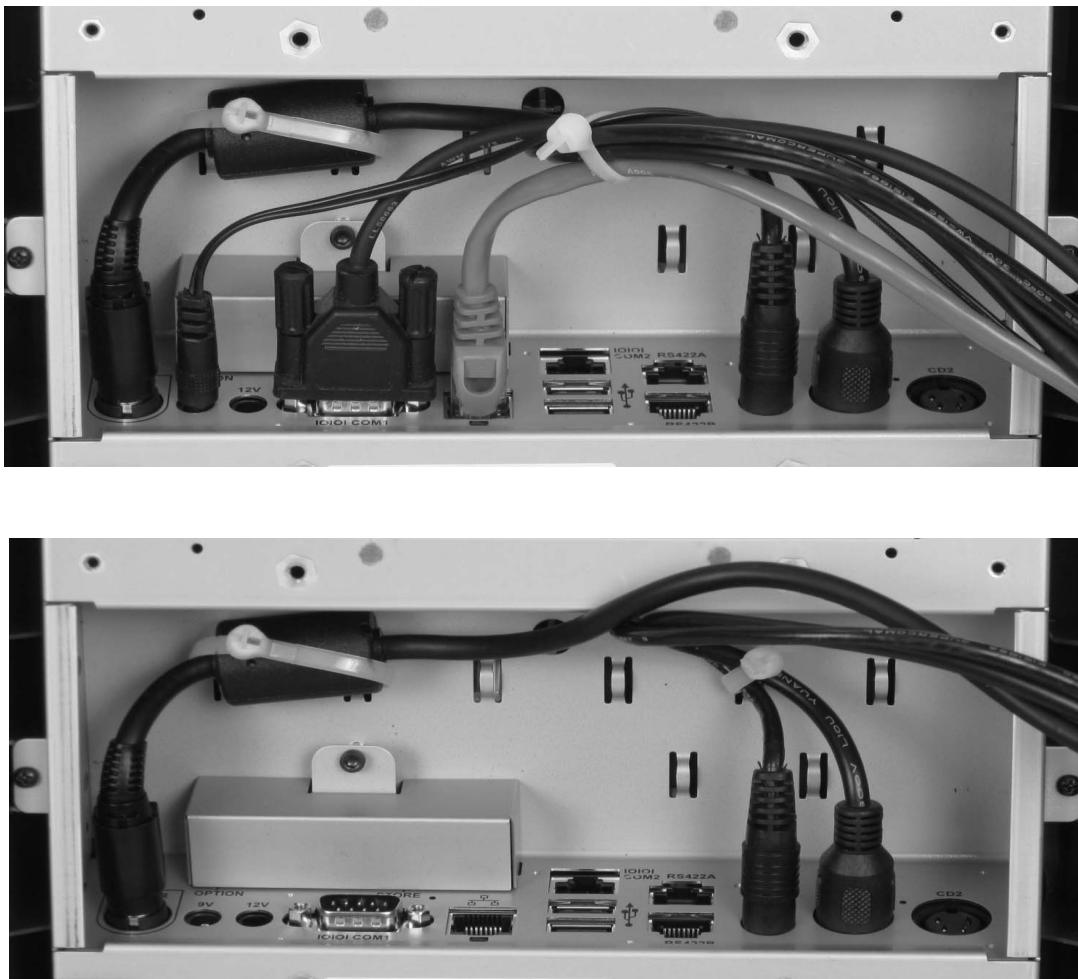

Figure 3-3: Examples Of Cabling the KW270
2. With the AC cable disconnected from the AC adapter, connect the DC output cable to the DIN connector labeled 'Power.' Figure 3-3 displays two examples of using the supplied tie-wraps to secure the power cable to an IO compartment cleat.
3. Connect each peripheral cable to the appropriate I/O connector. Use the five (5) tie wraps supplied in the loose parts kit to secure cables as required. Two examples are shown on the following page (Figure 3-3.).